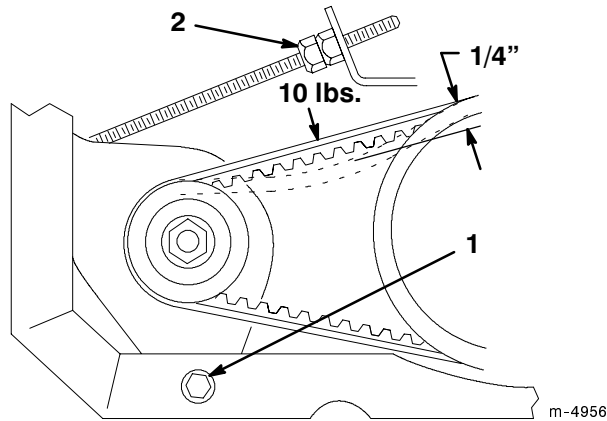

Figure 26
- Loosen the starter generator pivot bolt (Fig. 26).
- Adjust the jam nut on the starter rod (Fig. 26) until the belt flexes 1/4" with 10 lbs. of force.
- Tighten the starter generator pivot bolt (Fig. 26).